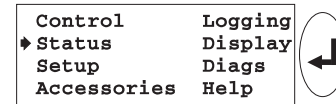

Fig 5-15 Top Level Menu & The Enter Navigation Key
- ❑ 3. From the startup screen, press the ESC navigation key to display the top level menu screen. See figure 5-15.